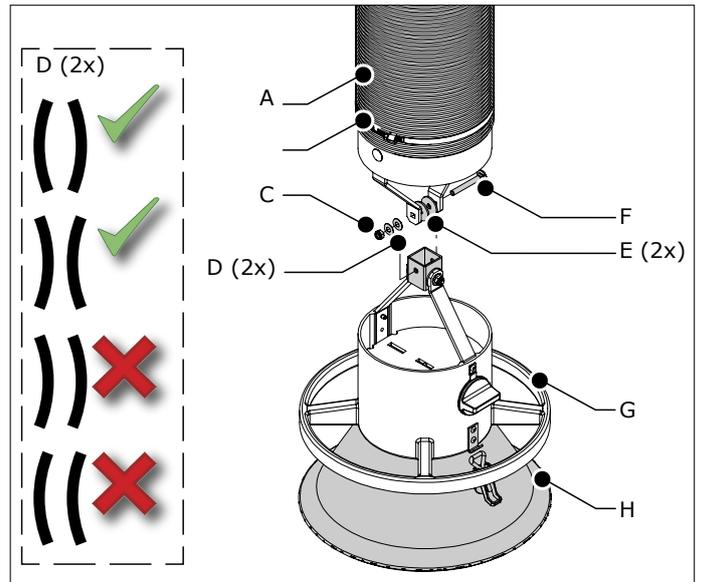

Fig. 4.4 Hood mounting (metal tube arm)
*Metal tube arm (KUA): refer to Fig. 4.4*
- Install the extraction hood (G) with the bolt (F), 2 washers (E), 2 spring washers (D) and a locknut (C).
- Install the hood collar (H) to the hood (G). Fasten it with the clip.
- Install the hose tube (A) to the hood.
- Fasten the hose tube with a hose clamp (B).